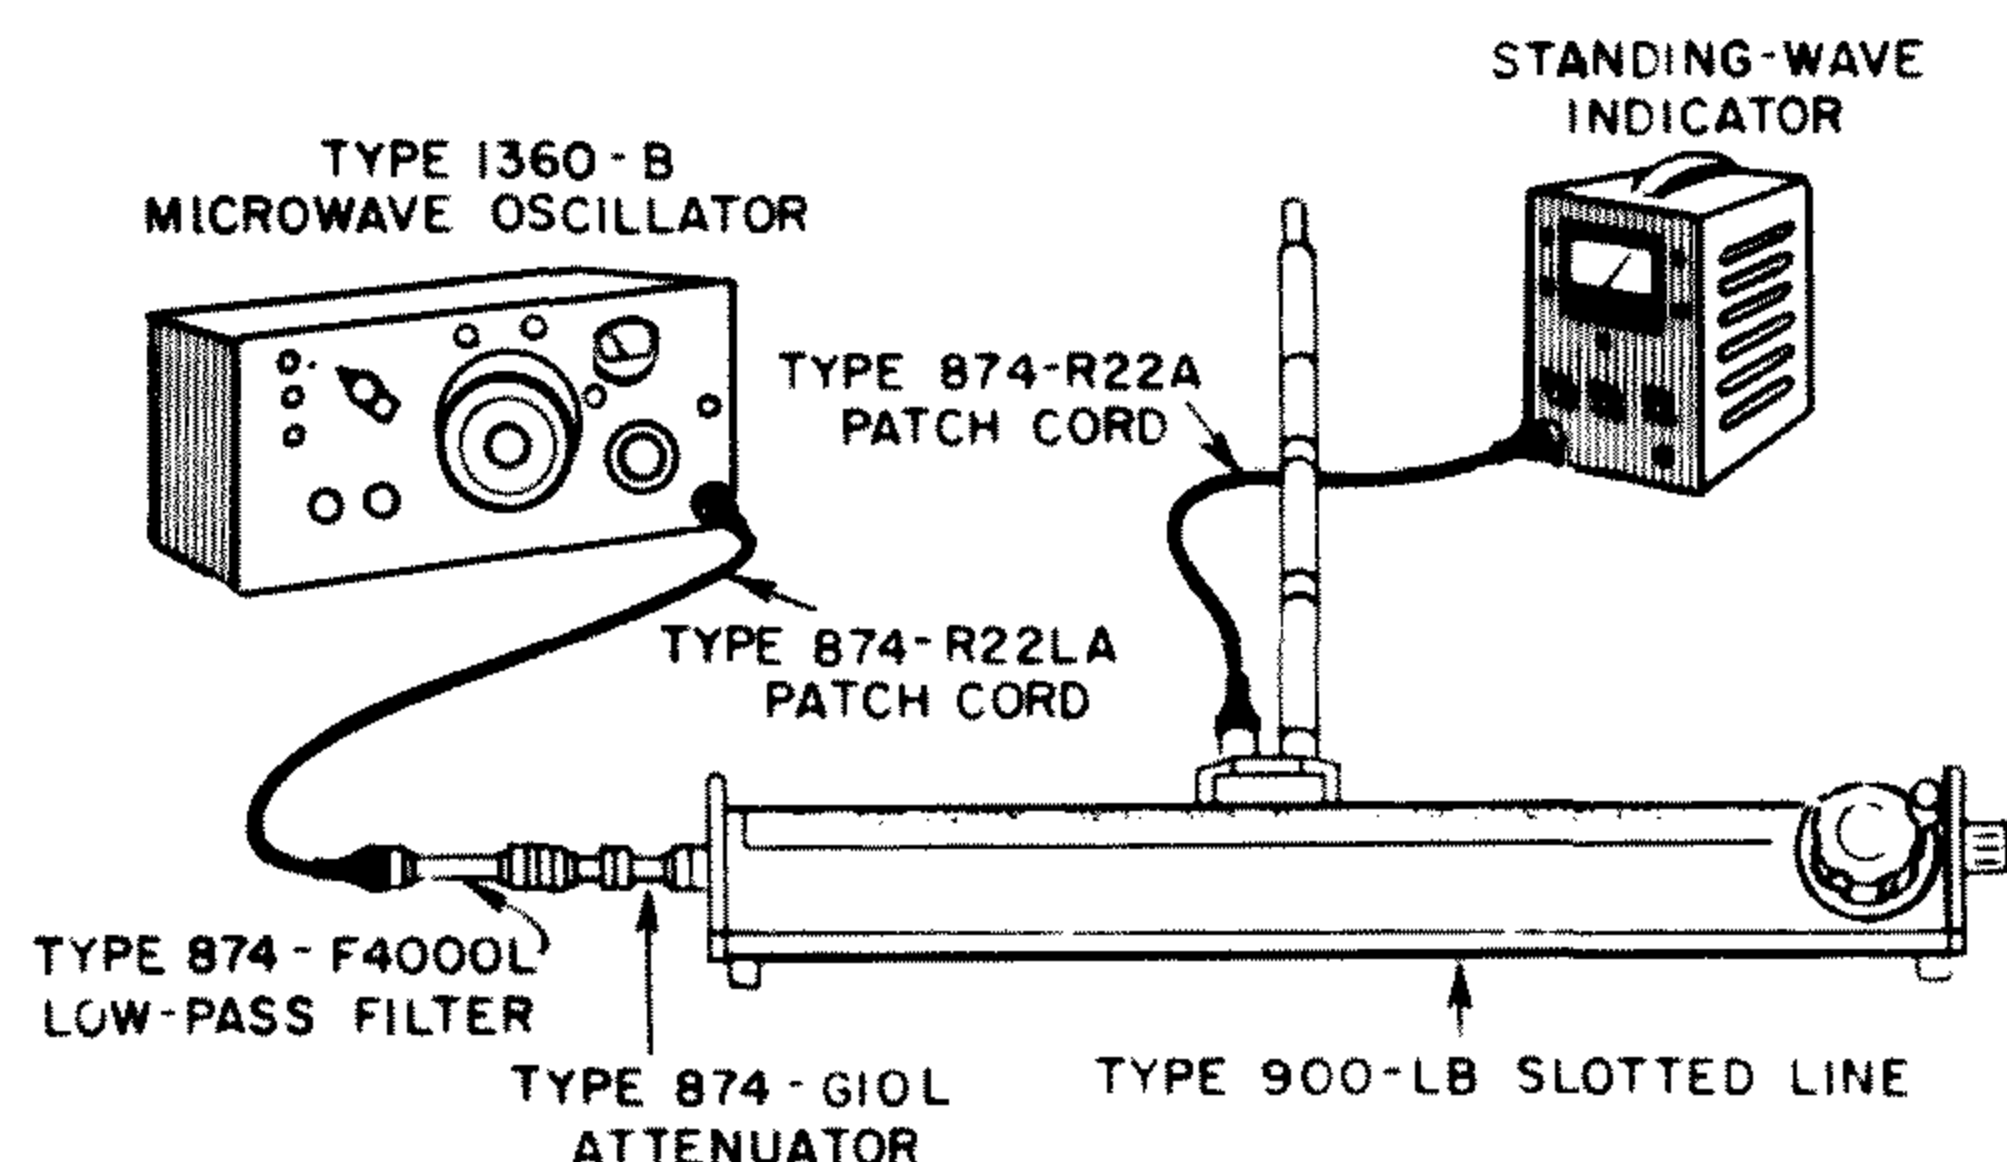

Figure 3-1. Type 1234 SWR Meter test setup for use with the GR 900-LB Precision Slotted Line.
A typical test setup for making microwave measurements using the 1234 SWR meter and a slotted line is shown in Figure 3-1. When standing-wave measurements are made, the test equipment is usually connected as shown. When attenuation measurements are made, this test setup can be modified so that the slotted line is not used. However, a detector is required in its place.
Such effects can be greatly reduced by the insertion of an attenuator or isolator between the signal source and the slotted line. If the insertion of the attenuator decreases the usable input from the signal source beyond tolerable limits, the oscillator tuning can be adjusted to compensate for the frequency shift. Under such circumstances, the amount of shift must be known for changes in loading conditions. However, outputs from signal sources are usually loosely coupled to their output circuits and the resultant frequency shifts are usually small. An attenuator such as the GR Type 874-G10L should be used between the signal source and the slotted line (refer to Figure 3-1).
- a. Connect a signal source, detector, as shown in Figure 3-1 and as described above.
- 1) METER SCALE switch (5) to 10-40 (SWR scale).
- 2) SOURCE switch (16) to 20k $\Omega$ .
- 3)  $\Delta$  dB switch (14) to 0.
- 4) ATTENUATION dB switch (12) to 5.
- 5) FREQ kHz control (1) to midrange (1.0).
- 6) METER SPEED switch (2) to SLOW.
- 7) BANDWIDTH control (3) 3/4 ccw.
Before using the 1234 SWR meter for measurements, the test setup should be checked for ground currents. Connect the test setup for normal measurement conditions (Figure 3-1, for example) with the exception that the signal source r-f output connector should remain unconnected. Set the controls of the 1234 SWR meter for a sensitivity greater than that required to make the measurement and note the amount of deflection on the BOLO BIAS mA scale of the instrument.
a. Connect the signal source, detector, and the 1234 SWR meter as shown in Figure 3-1.
1) METER SCALE switch (5) to 10 - 40 SWR position.
2) SOURCE switch (16) to HIGH.
3) ATTENUATION dB switch (12) to 0.
4)  $\Delta$ dB switch (14) to -5.
5) FREQ kHz control (1) to midrange.
6) METER SPEED switch (2) to SLOW.
7) BANDWIDTH control (3) 3/4 ccw.